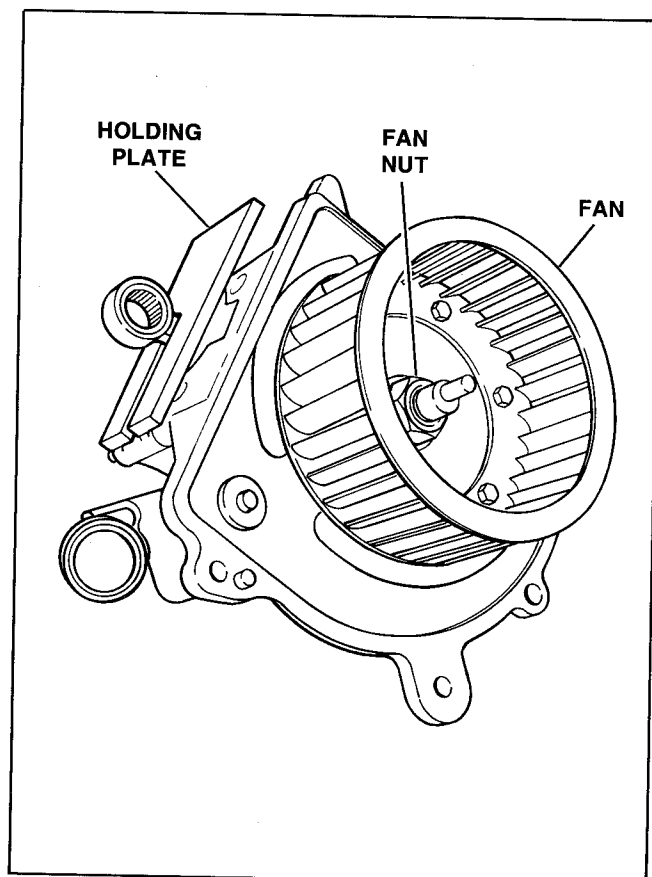

Figure 7-14 - Fan Removal
- f. See Figure 7-14. Place the CONNECTING ROD HOLDING PLATE, Part No. 94403-80, under rod upper end and remove the fan nut and fan.
- See Figure 7-14. Install fan (2) on the ignition module side of the crankcase. Using the CONNECTING ROD HOLDING PLATE, Part No. 94403-80, install the fan nut (2). Tighten the fan nut to 50-70 ft.-lbs. torque. Inspect and clean fan spacer. If needed, replace.